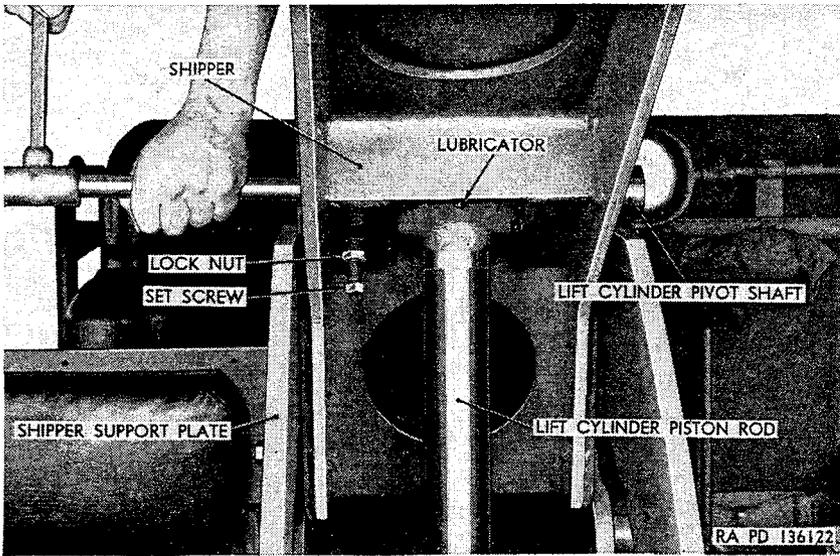

Figure 303. Removing lift cylinder pivot shaft M62.
- (4) Loosen locknut (fig. 303) and set screw and drive out lift cylinder pivot shaft.
- (5) Lower boom and shipper assembly to the horizontal position, and remove overhead hoisting equipment.
- (3) Remove overhead hoisting equipment and chain sling from boom and shipper assembly, attach hoist to front end of boom, and raise boom to expose lift cylinder pivot shaft holes.
- (4) Aline pivot shaft bore in upper end of lift cylinder piston rod (fig. 280) with pivot shaft holes in shipper, and install lift cylinder pivot shaft (fig. 303). Tighten locknut and setscrew on underside of shipper.
- (2) Using overhead hoisting equipment, raise the boom and shipper assembly to the extreme upward position.
- (3) Loosen locknut (fig. 303) and setscrew, and drive out lift cylinder pivot shaft.
- (4) Aline pivot shaft bore in upper end of lift cylinder piston rod (fig. 303) with pivot shaft holes in shipper, and install lift cylinder pivot shaft. Tighten locknut and setscrew on underside of shipper.